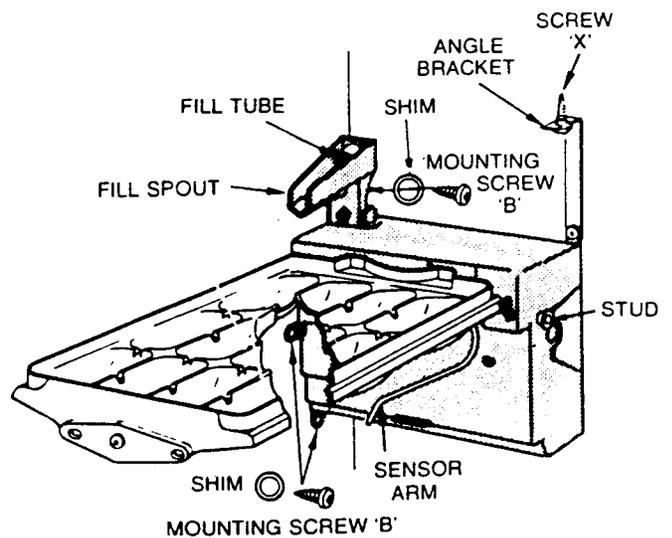

Figure 8 Ice maker mounting screws
2. Loosely attach the angle bracket to the ice maker mechanism with a type 'A' screw (see figure 8). Use the lower hole in bracket.
3. Plug the ice maker harness connector onto the ice maker electrical prongs at the lower left end of the mechanism. Observe the shape of the plug. It must be positioned properly to fit the ice maker receptacle. With a type 'F' screw, attach fill spout to ice maker (see figure 8).
4. Move ice maker into position (see figure 8) while guiding the fill spout onto the fill tube. **NOTE:** when positioning the mechanism, slide your left hand between the ice maker and the freezer wall to push the wire harness toward the centre of the ice maker back. Cut tube if it protrudes more than 1 inch into the spout. Hook the top of the angle bracket under the head of the screw 'X' (see figures 3 and 8).
5. Mount the ice maker to the side wall fasteners with 3 type 'B' screws (see figure 8). **NOTE:** starting these screws will require extra pressure to pierce the sealing web over the screw hole in the fasteners. To insure quality ice cubes, the ice maker must be level within 1/8" side to side and level within 1/8" front to back. Place shim(s) (1/8" thick and/or 1/16" thick) as required behind lug at mounting screws 'B' to level the tray right to left. Place half as many at 'C' to eliminate the gap. Bring cube tray to level front to back by using the clearance around the screws. Tighten all screws.
7. Turn the ice maker on by pulling the sensor arm toward you a fraction of an inch and allowing it to drop into the ON position (figure 8 shows arm in ON position).
10. Insert stud B as shown on figure 8.